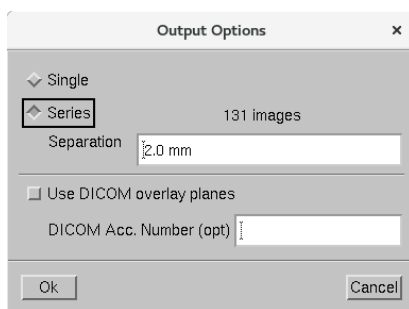

Figure 43. Options for DICOM export.
- Press **Save**, another dialog pops up for export options (Figure 43).